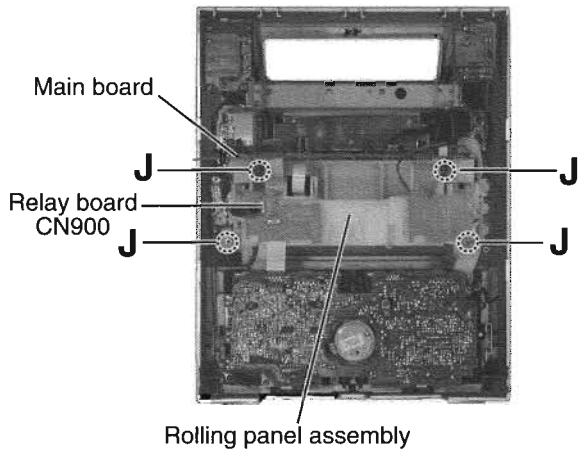

Fig.12
■ **Removing the rolling panel assembly (See Fig.12 and 13)**